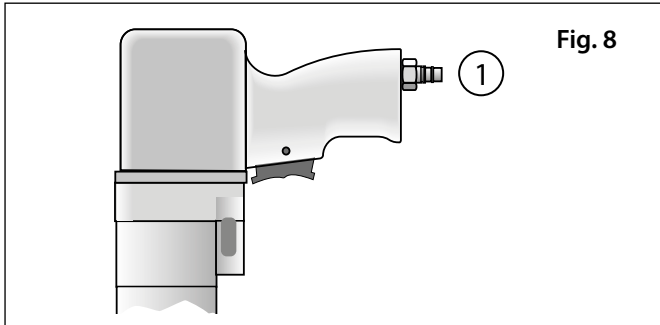

Fig. 8
In the event of prolonged periods without operation, the motor of the *alkitronic*® CL multiplier must be supplied with oil via the connector (1) of the compressed air supply at the pistol grip (Fig. 8). This prevents corrosion damage to the motor lamella (see Section 4.1, Air lubrication). Protect the compressed air supply on the multiplier with a protective cap to prevent dirt from entering.